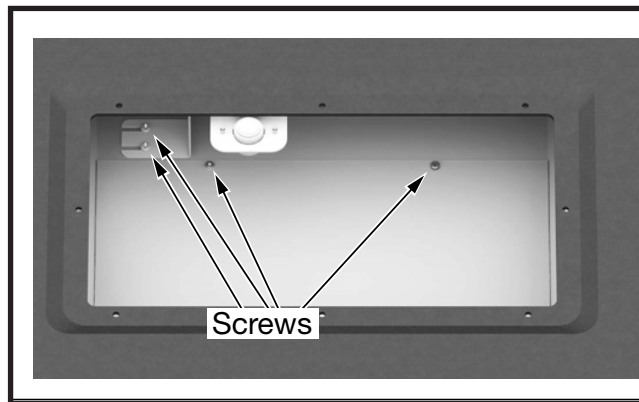

Figure 4: Thermostat bracket and access panel screws.
3. Loosen the two screws securing the thermo switch bracket and slide the bracket back and set aside to clear the opening for removing the blower (Figure 4).